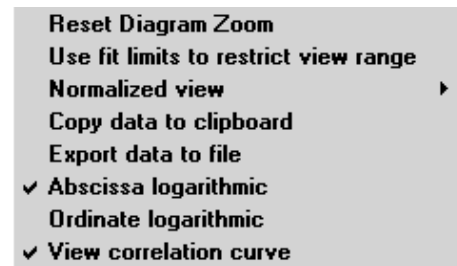

Fig. 5-377 Context menu of the Fit diagram
- Click on the diagram with the **right** mouse button to open the context menu (see Fig. 5-377).